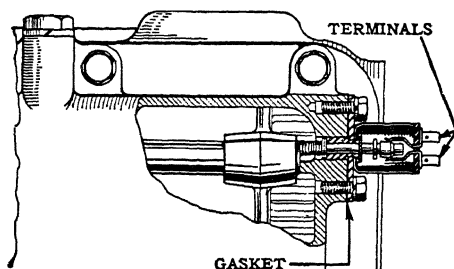

Fig. 20. Back-Up Light Switch—"On" Position
**Backing Lamps.** Occasionally car manufacturers make use of a backing lamp, which is mounted so as to reflect the light rearward and which is so arranged and wired as to have the switch cut in and lamp lighted when the gear shift is put into reverse position. The back-up switch, Figs. 20 and 21, is connected in parallel with
.015 inch to .025 inch. The air gap with the points closed should be .012 inch to .017 inch. The relay, when adjusted properly, should close at 4 volts. The point opening can be changed by bending the brass stop which bears against the relay armature when the points are in the open position. The air gap can be adjusted by loosening the air-gap adjustment screws and moving the armature up or down. After the air gap and points have been properly adjusted, the proper voltage cut-in can be obtained by changing the spring tension, by bending up or down the brass support for the flat steel spring. Refer to Fig. 20 of the section on "Reading Wiring Diagrams."